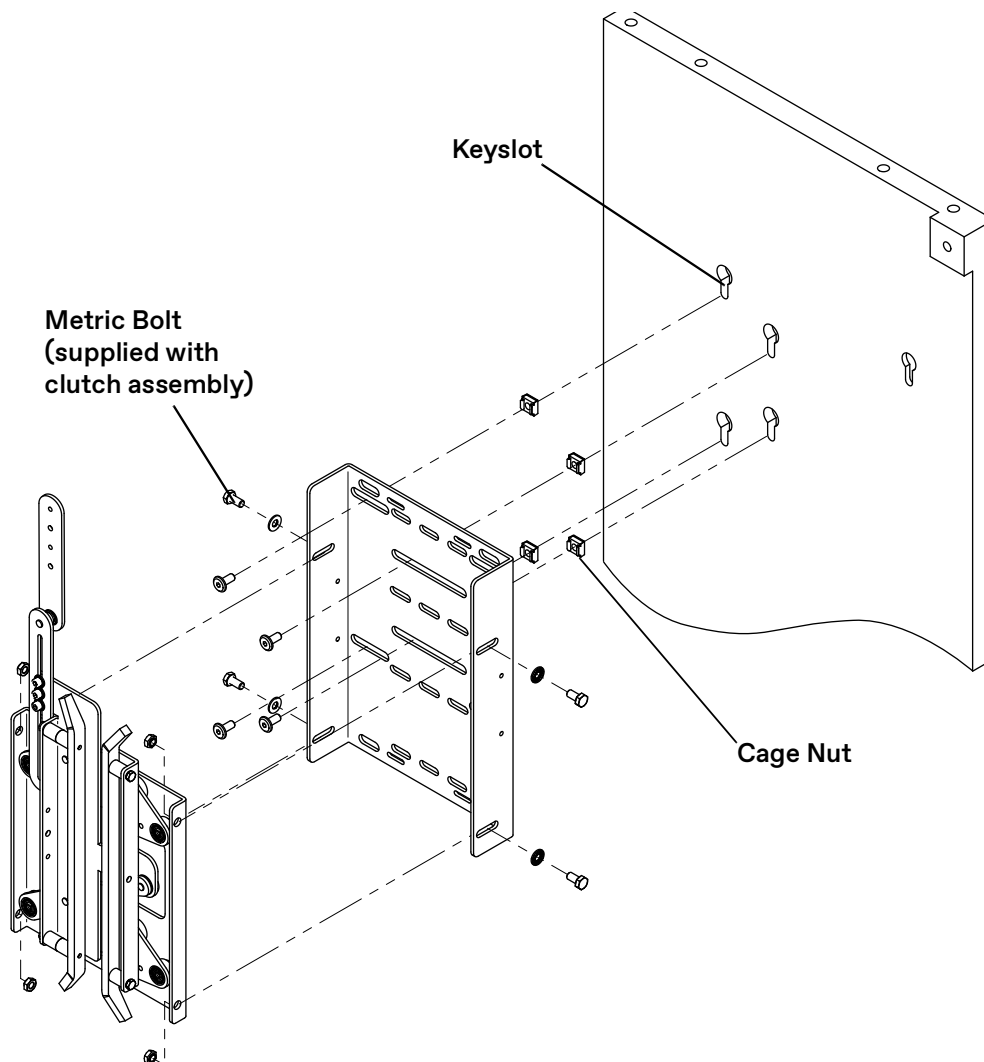

Figure 45 - Clutch Installation
10. Use the supplied metric bolts to attach the clutch assembly. See Figure 45.